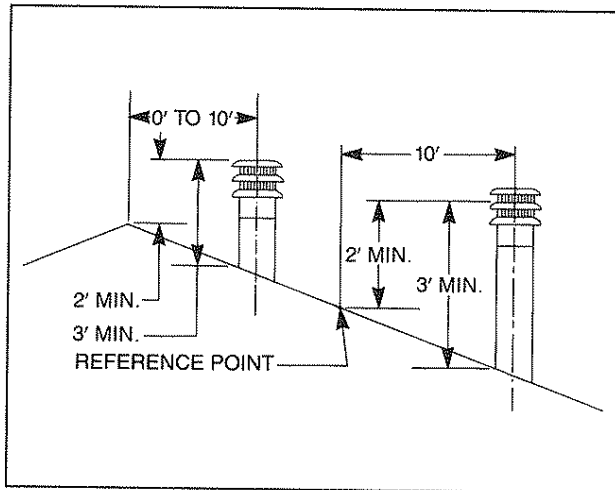

Fig. 13. Ten foot rule for chimney height.
summarized in the Ten Foot Rule. (See Fig. 13.) The key points of this rule are:
2. If a horizontal distance from the center of the chimney to the peak of the roof is more than 10 feet, a chimney height reference point is established that is on the surface of the roof a distance of 10 feet from the center of the chimney in a horizontal plane. (See Fig. 13.) The top of the chimney must be at least 2 feet above this reference point, but never less than 3 feet in height above the highest point where it passes through the roof.